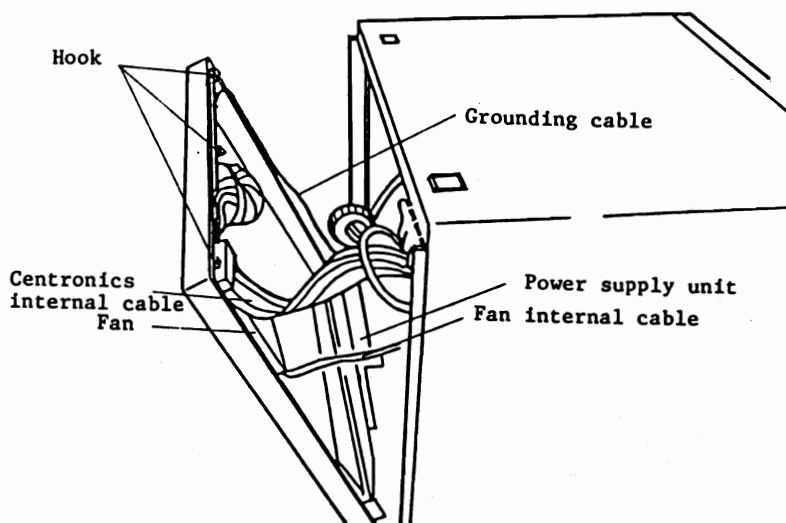

Fig. 3.1.3
- ② Remove hook from upper cover first, then, disconnect CENTRONICS internal cable from CPU+I/O-CONT P.C.B, and fan internal cable from rear cover.
- ③ Remove three grounding cables (Fig. 3.1.3) which are clamped to power supply unit, then, remove rear cover.